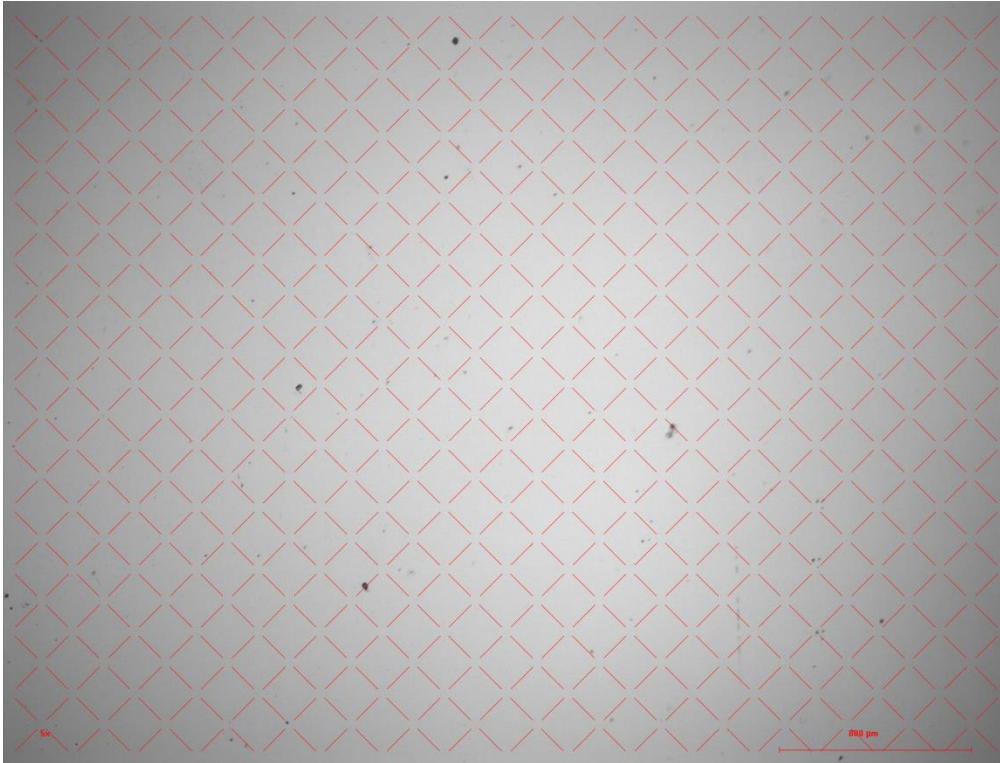

FIGURE 26: INTERFERENCE PATTERN VISIBLE IN CASE OF A PROPERLY
8. After the interference fringes are properly aligned turn the second screw again to tilt the stage perpendicularly to the interference pattern. Proceed with the leveling procedure until the interference fringes expand evenly over the entire area visible in the live view image as shown in Figure 26